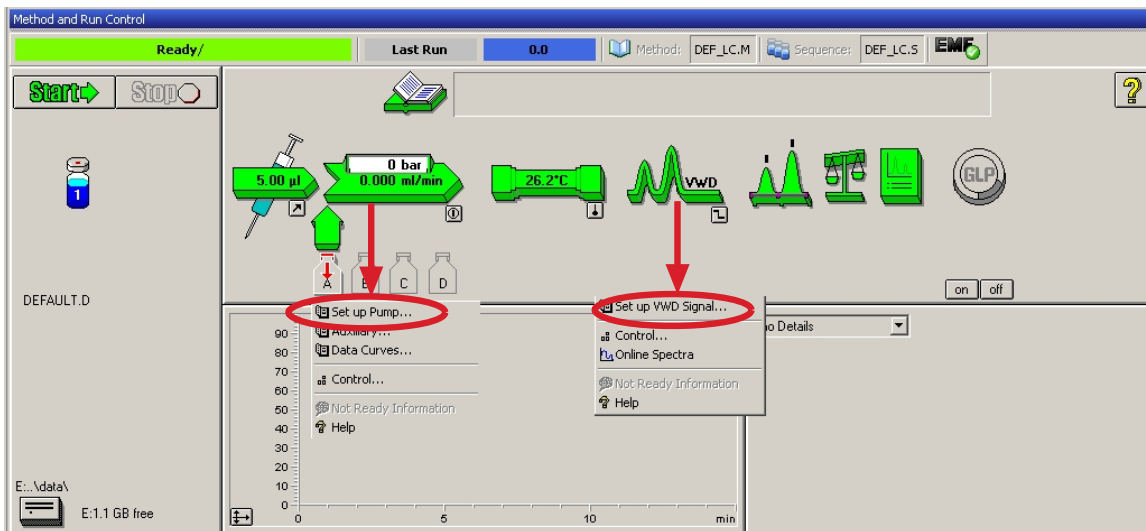

Figure 18 Open the module menu
- Click on the module icons (Figure 18 on page 60) and open the **Setup** of these modules. Figure 19 on page 61 shows the detector settings (do not change the detector parameters at this time).